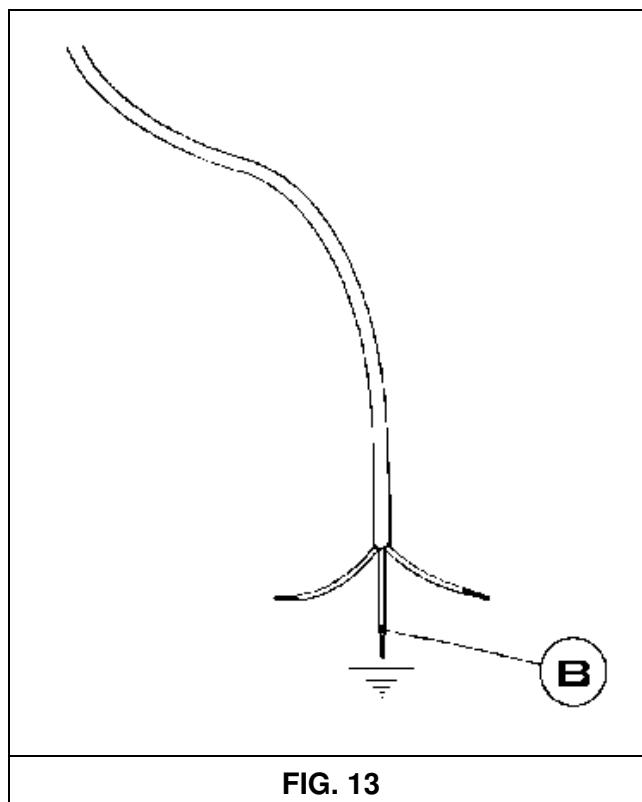

FIG. 13
*When replacing power supply cable, the installer must have at hand an earthing conductor (B) with a larger length than phase conductors (see Fig. 13) and comply with the requirements specified in paragraph 8.*